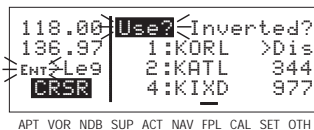

Figure 4-10
2. Press **CRSR** to turn on the cursor. It will appear over **Use?** (figure 4-10). If you haven't left the numbered flight plan since creating this flight plan, rotate the outer knob counterclockwise to position the cursor over **Use?**